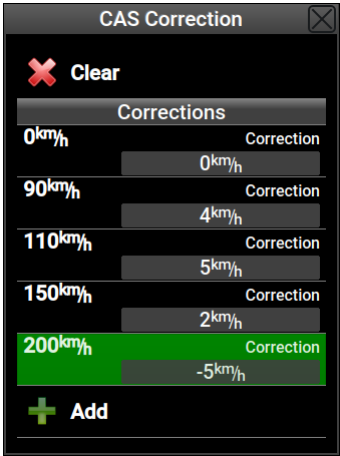

Figure 81: An example of the CAS correction table.
2. Enter points as shown in the Figure 81.